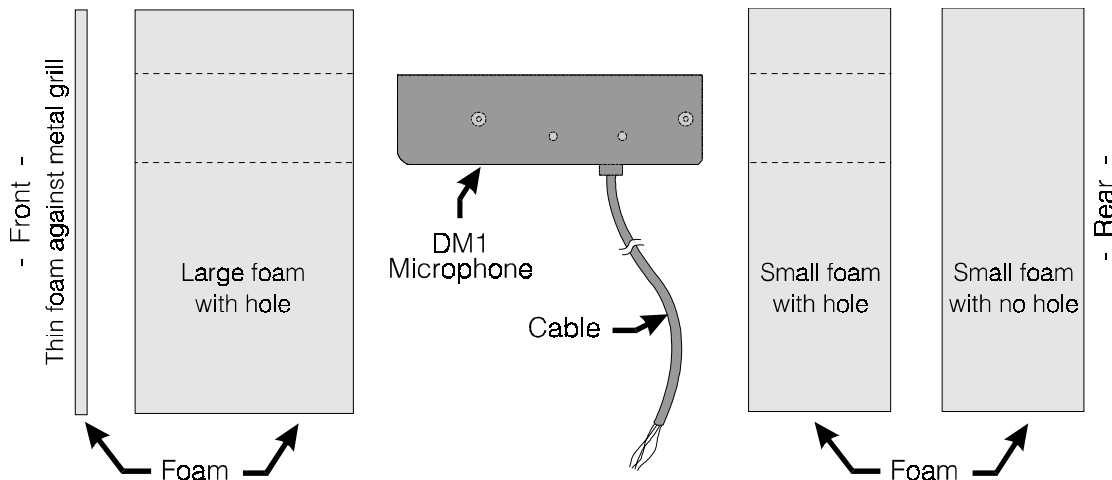

Figure E-1. Sequence of DM1 and foam inserts in speaker post or menu board
Typical DM1 Microphone installation involves mounting it inside the upper compartment of the SPP2 speaker post. The microphone unit must be mounted against the inside of the speaker grill. The four enclosed pre-cut foam pieces are made to fit around the DM1 in many types of speaker posts and menu boards. If the unit must be mounted in a small area, compress the foam when installing it and closing the speaker post or menu board. In larger areas, additional foam (not supplied) can be added. To install the DM1 in a typical SPP2 speaker post, refer to Figures E-1 and E-2 and follow these instructions.
- Place the DM1 Microphone into the holes on the large and small pieces of foam with holes, in the positions shown in Figures E-1 and E-2.